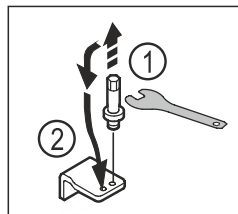

Fig. 13
- ▶ Unscrew the bolt of the lower swap bearing block with an Allen key AF5. Fig. 13 (1)
- ▶ Insert the bolt on the opposite side. Fig. 13 (2)